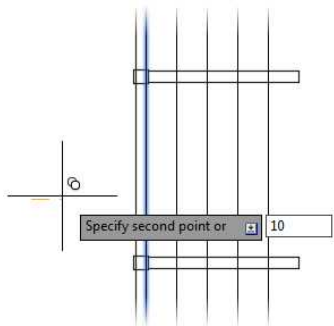

FIGURE 5.23: Using the Array option of the COPY command to create stairs for the deck
- b. Move your cursor directly to the right, and enter **10** (**254**) at the Specify second point or: prompt (see Figure 5.23).